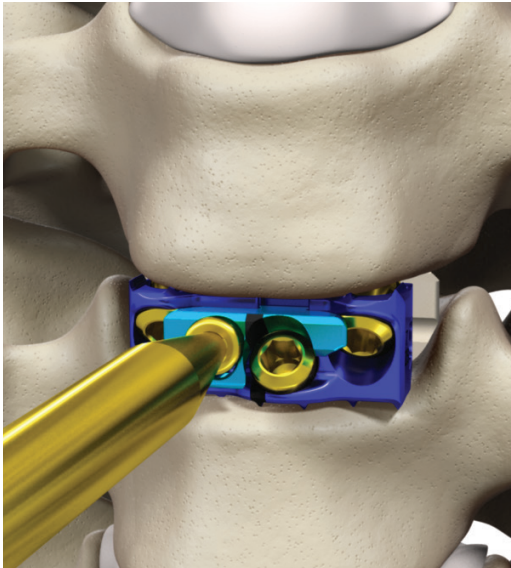

Figure 43
- Once all screws are fully seated within the plate, assemble the gold locking cap driver and torque limiting handle. Insert the locking cap driver into the gold locking screw. Ensure that the tip of the driver is fully seated in the screw pocket and that the driver is on axis to the locking screw (Figure 43).